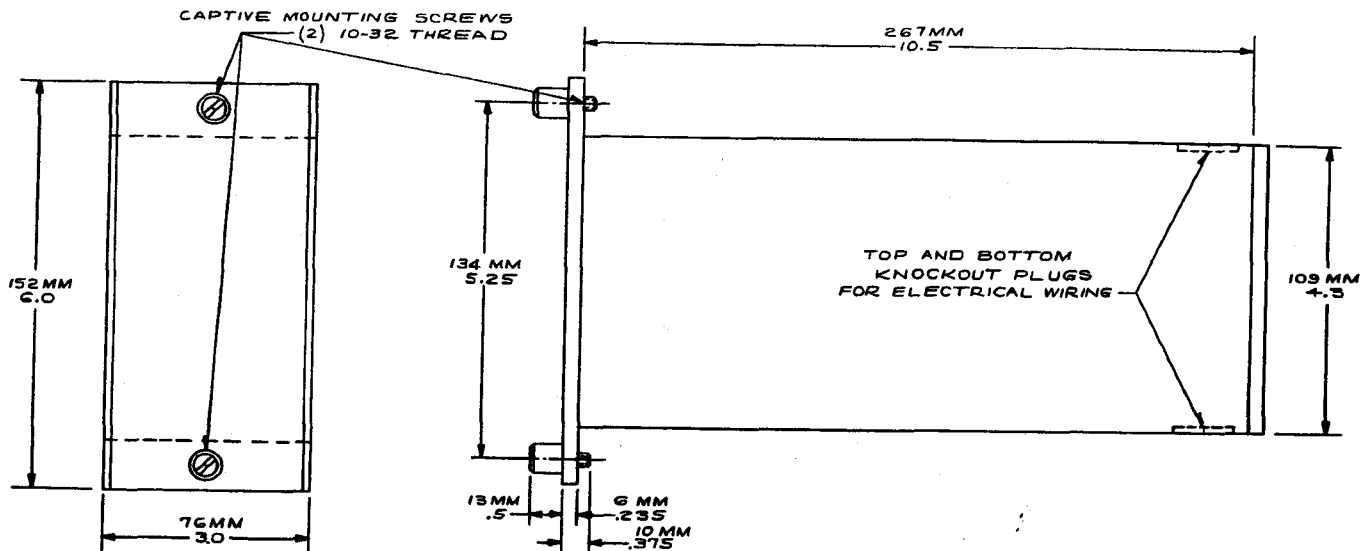

Figure 2-1. Mounting Dimensions, Panel Mounting Models
The HYGROTRAN Transmitters with graphic panels require an 11.5 x 7.7 cc (4.5 x 3.0 inch) cut-out and two mounting holes on 13.4 cm (5.25 inch) centers, Figure 2-1.
1. Prepare panel mounting facility using dimensions in Figures 2-1 or 2-2 as a guide. (Check unit for necessary tolerances for best fit.)